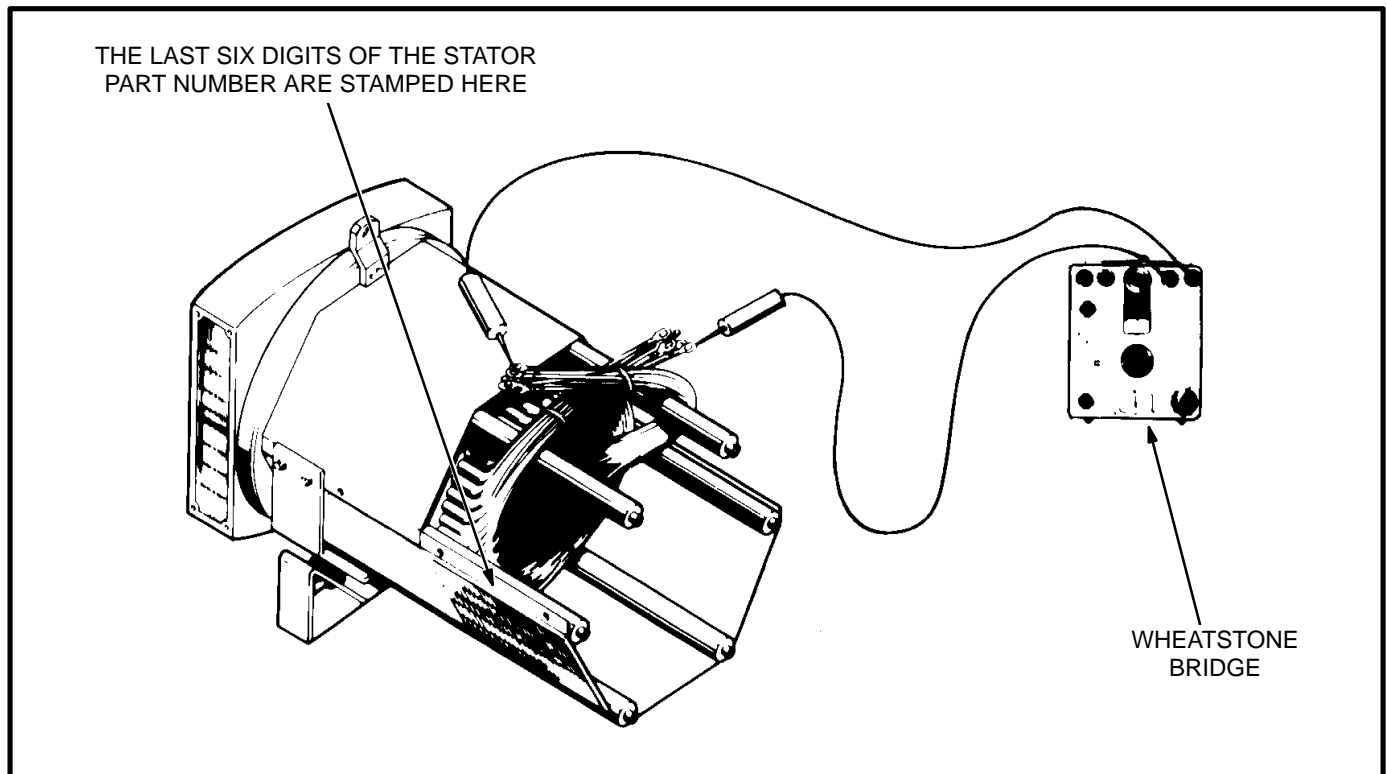

FIGURE 5-6. TESTING THE GENERATOR STATOR
** - See Figure 5-6 for the location of the stator part number.